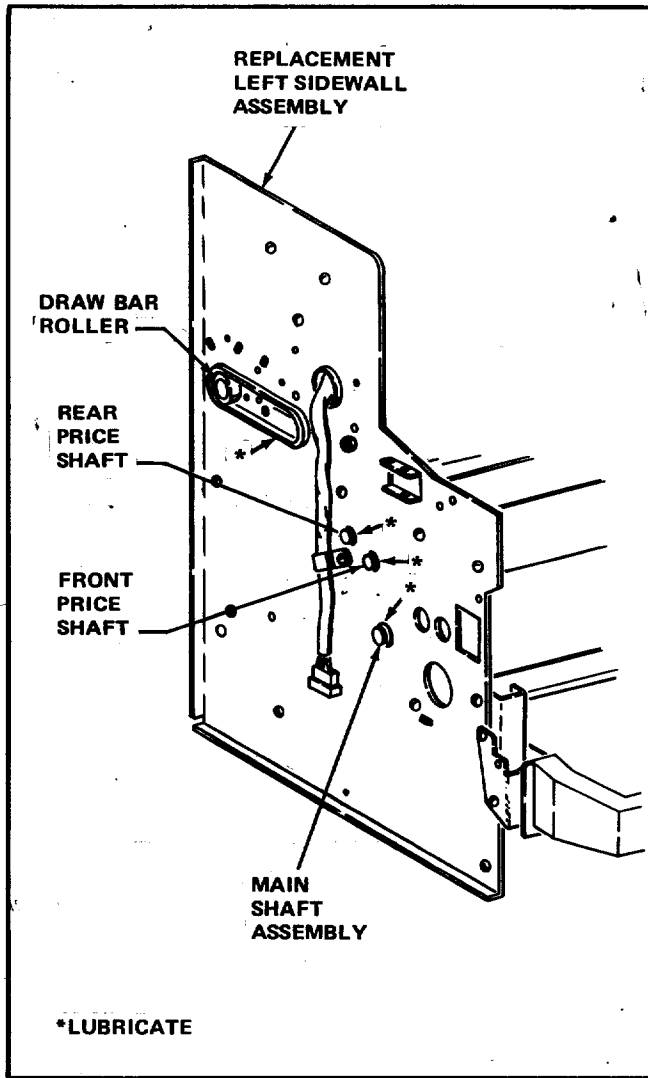

FIGURE III-3
- L. Inspect the Delivery Mechanism, be sure all Shafts and Rollers referred to in steps III-F, G, and H are properly positioned in both the Left and Right Sidewall Assemblies. See Figure III-3.